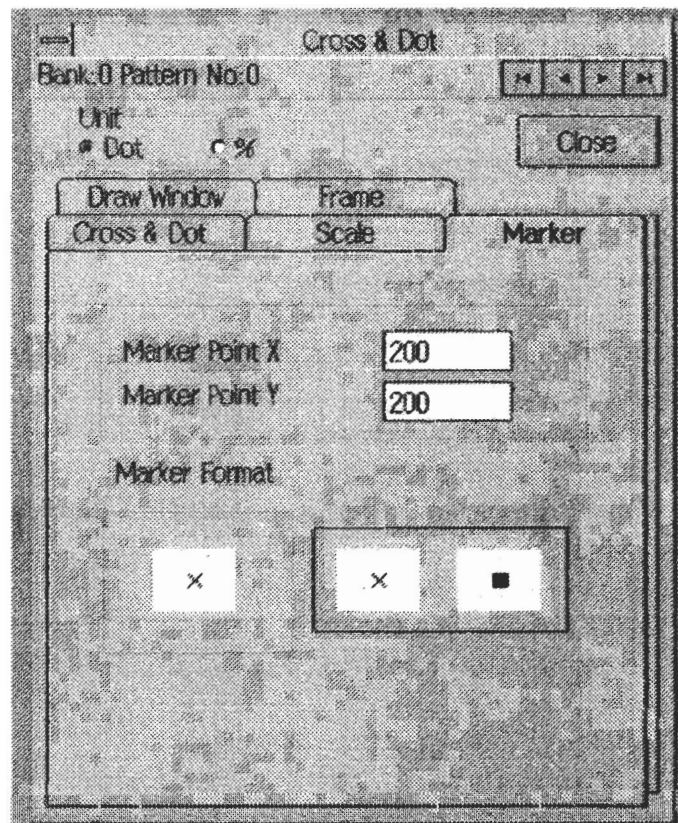

Figure 4-27
Opens the "Cross & Dot" dialog box (Figure 4-27) so that crosshatched or dot pattern parameters can be specified.
- * "Marker" card: Used to set a marker (Figure 4-27).